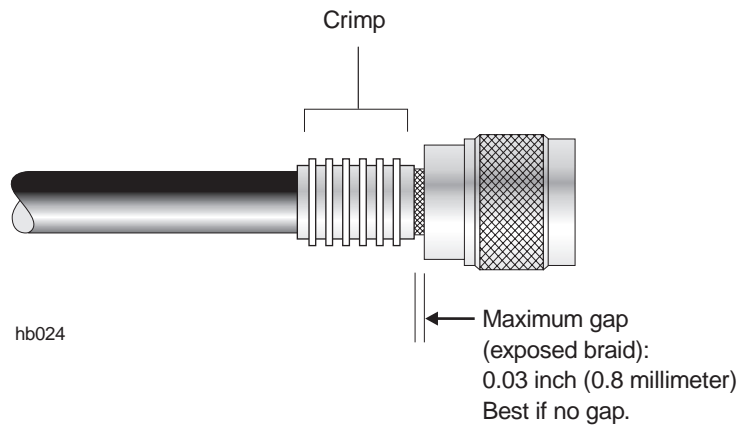

Figure C-11 Crimp location
7. While holding the connector assembly together snugly, position the HCT-231 crimping tool, at setting 0.475, onto the area shown in figure C-11 and securely crimp the crimp ring into place.